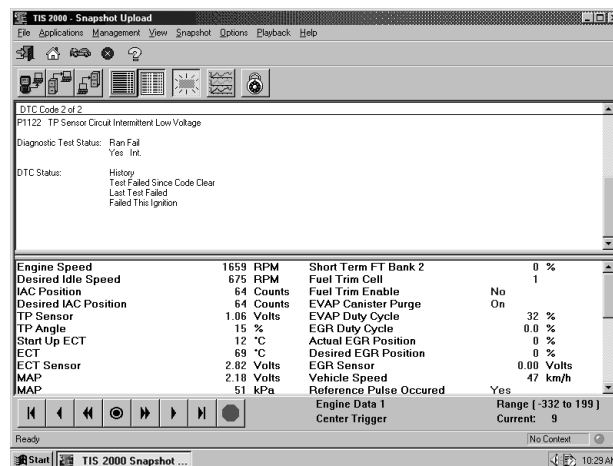

FIGURE 8-42. DTC Information on Snapshot Upload Screen
After the snapshot uploads, a list of data parameters displays on the monitor (see Figure 8-42).
After a snapshot has been uploaded (either from disk or the scan tool), it can be viewed and analyzed in a variety of ways. Figure 8-42 identifies the different display icons and replay selections.
**The selections and their functions are as follows (refer to Figure 8-42):**
- Two-Column (see Figure 8-42) displays a double-list. When using two-column mode, the maximum number of characters of any one line is 80.